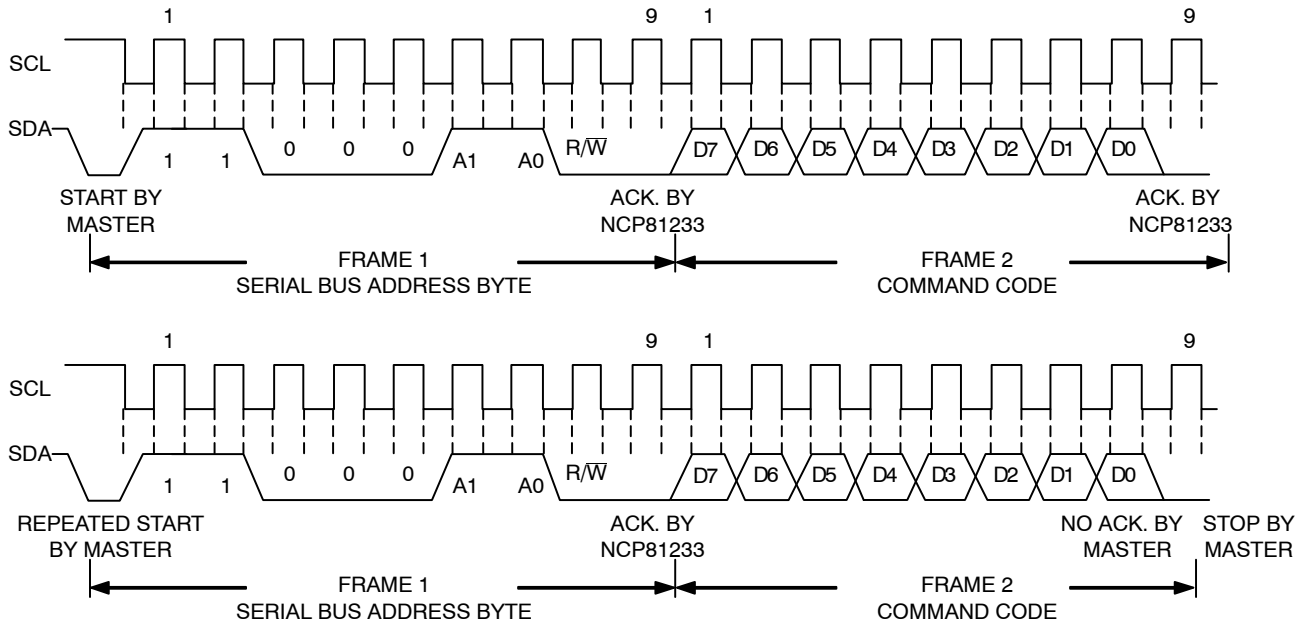

Figure 21. Read Byte
- The read byte operation is shown in Figure 21. First the command code needs to be written to the NCP81233 so that the required data is sent back. This is done by performing a write to the NCP81233 as before, but only the data byte containing the register address is sent, because no data is written to the register. A repeated